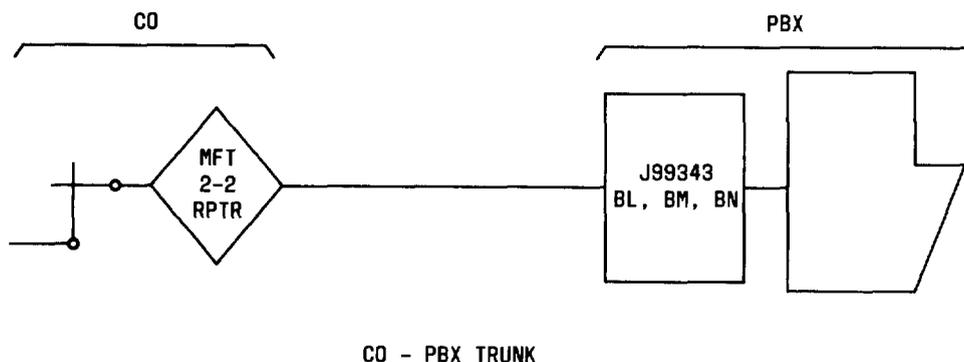

Fig. 7—Typical Application of Impedance Compensation Network
6.01 Impedance compensation units provide facility matching to improve terminal balance characteristics for interfacing 2-wire toll connecting trunks at toll switching offices, PBX-CO trunks, or other 2- to 4-wire metallic facilities transitions. These networks are most frequently used at the customer premises end of network circuits requiring terminal balance as shown in Fig. 7. With these plug-ins, necessary compensation can be provided anywhere an MFT transmission slot is available. Specific facility applications are shown in Table A.